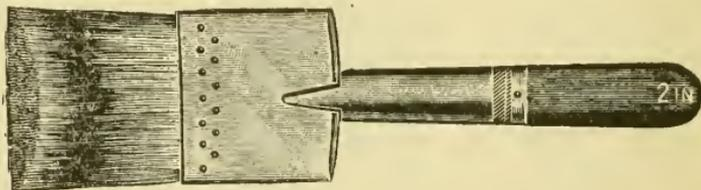
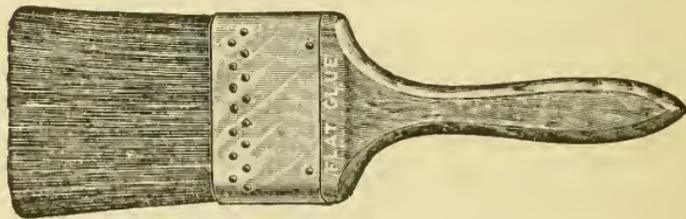

Fig. 11—Round Glue Brushes, Gray Bristles.
Fig. 12—Flat Glue, Gray Bristles.
j. Glue brushes are usually metal bound and well set. They run in sizes from 000 to No. 4 or from $\frac{5}{8}$ inch to $1\frac{1}{2}$ inch in diameter. See Fig. 11. They are also made flat, metal bound, and from 1 inch to 6 inches wide. The flat brushes are also made chisel edged. See Fig. 12.